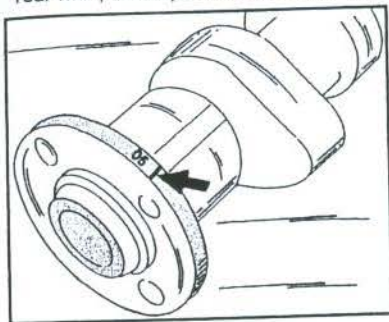

Fig. 1.70 – Camshafts are marked with a number at the position shown by the arrow.
Except for the number of bearing journals and cams, a similar camshaft is fitted to all 601/602 engines. The shaft of the four-cylinder engine has five bearing locations, the shaft of the five-cylinder has six. To identify the camshaft a number is stamped into the rear face, at the position shown by the arrow in Fig. 1.70.
- If a new camshaft is fitted, refer to the identification numbers (shown in Fig. 1.70) or consult your dealer. A new shaft should be inserted into the bearing bores (well oiled) to carry out the following checks: